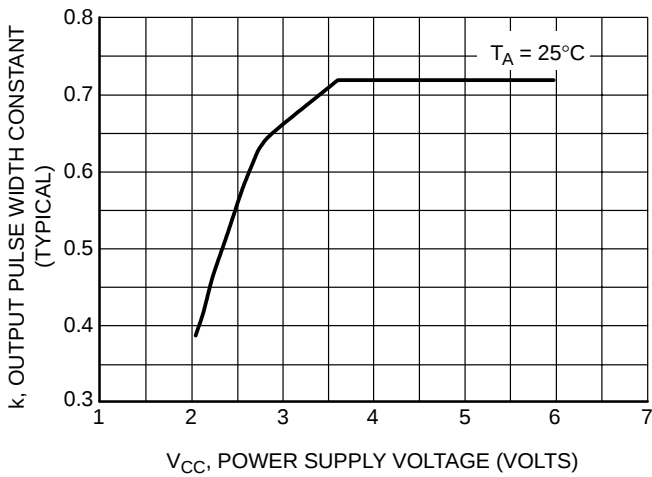

Figure 3. Typical Output Pulse Width Constant, k, versus Supply Voltage
*For output pulse widths greater than 100 μs , typically $\tau = kR_X C_X$, where the value of k may be found in Figure 3.